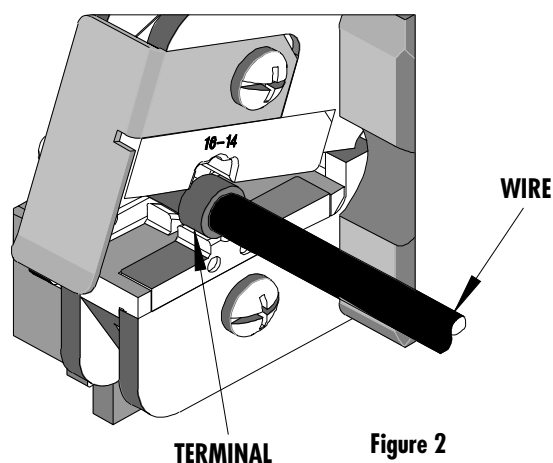

Figure 2
3. Push on wire to assure it is still fully seated in the terminal. (See Figure 2 and 3). Cycle the tool. Lift the locator blade or wire stop and remove the crimped terminal. Inspect for proper crimp location, and check for insulation closure. Locator is adjustable up and down to keep terminals straight after crimping.